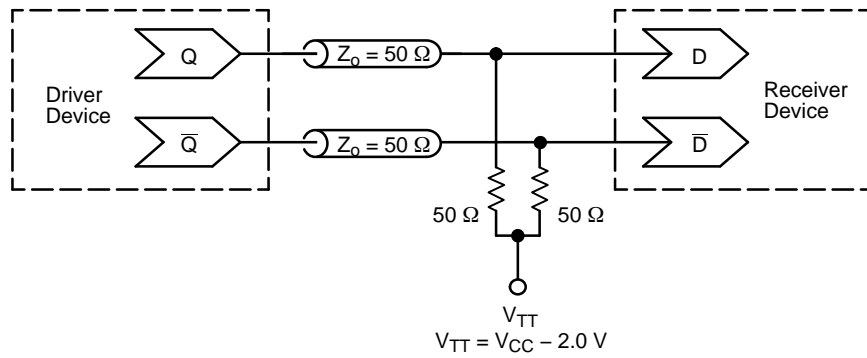
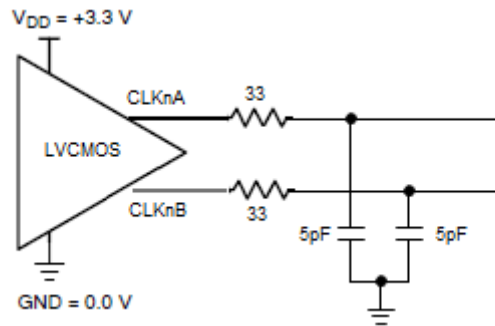

Figure 9. Typical Termination for LVPECL Output Driver and Device Evaluation (See Application Note AND8020/D – Termination of ECL Logic Devices.)
Figure 11. Typical LVC MOS Output Test Setup for Evaluation
13. Measured by using a 25 MHz crystal as clock source. All LVPECL outputs are loaded with an external  $R_L = 50\ \Omega$  to  $V_{DDO} - 2\text{ V}$  (Figure 9); LVCMOS outputs loaded with  $R_S = 33\ \Omega$ ,  $C_L = 5\text{ pF}$ , 5" 50  $\Omega$  trace, (Figure 11).